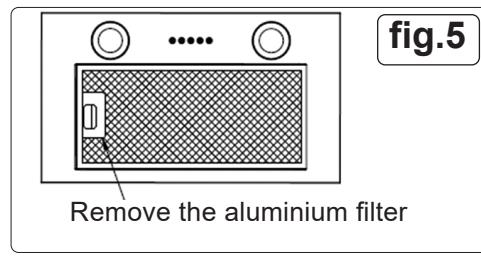

fig.5
- Remove the aluminium filter. See fig.5